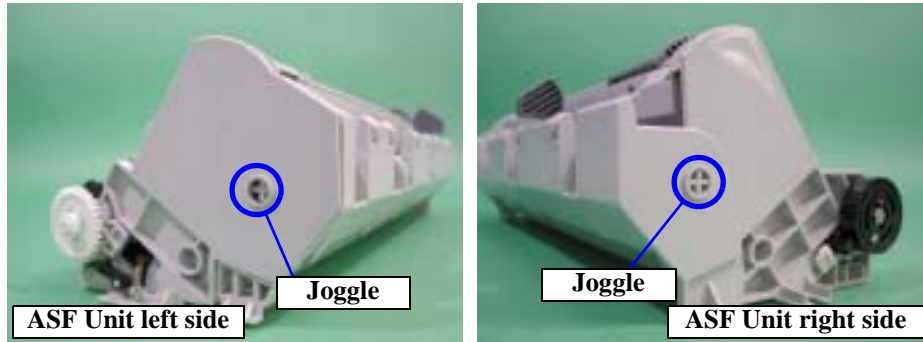

Figure 4-25. Removing the Roll Paper Guide
- Before reinstalling the Roll Paper Guide, insert the joggle on the ASF Unit left side, as viewed from the ASF Unit rear, into the mounting hole of the Roll Paper Holder. Refer to Figure 4-25, "Removing the Roll Paper Guide".